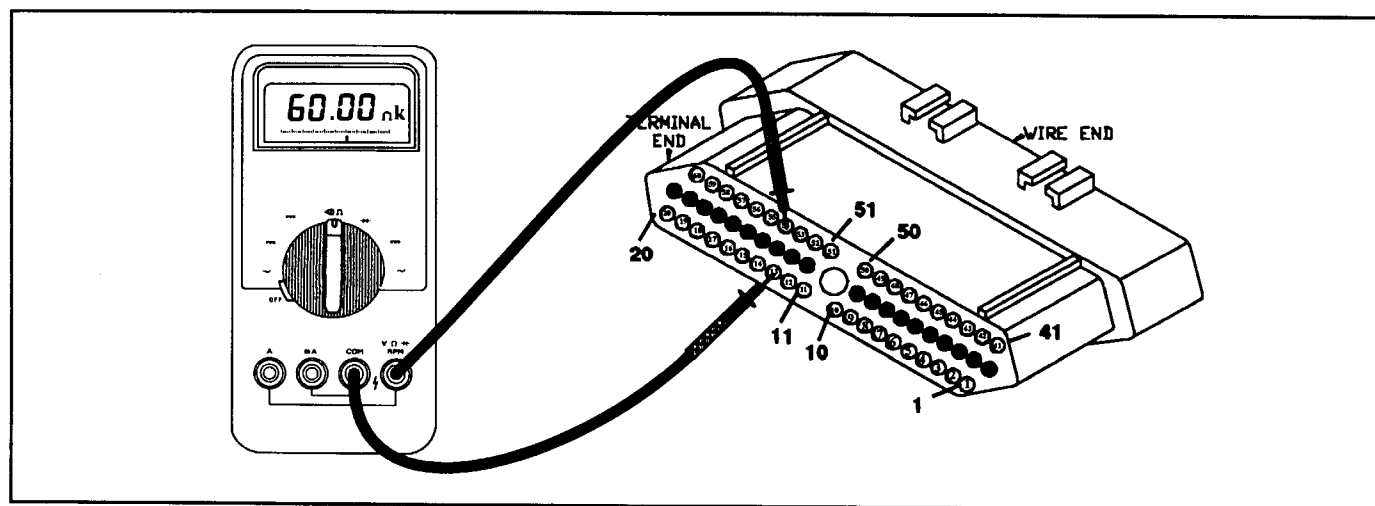

Figure 76
- Re-connect the TRS sensor and perform a resistance check on the TFT sensor from the TCM connector. Place one meter lead into terminal 13 and the other meter lead into terminal 54 (See Figure 76). The range for the sensor from cold to hot is 100,000 ohms to 150 ohms (See Table Below). If the change in resistance is proportional to the change in the transmission fluid temperature and the resistance remains within specification, change the TCM. If the resistance is out of specification or does not change in resistance proportional to temperature, change the TRS.